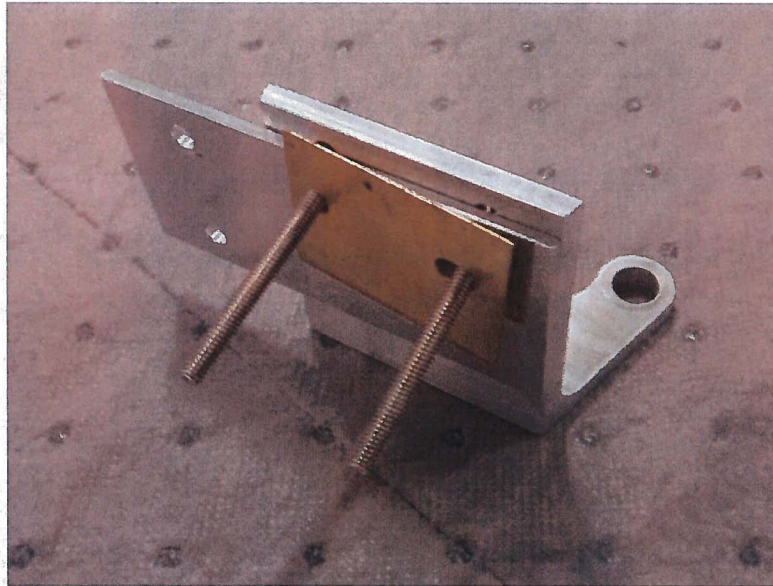

Figure 2
- c) Temporarily position MOV mounting plate (P/N 105070) and brush block shim (P/N 1H1157) on brush block bracket with two B-6637-53 Pan Head screws as shown in **Figure 2**. Install a B-3837-N832 CRES flat washer under the head of each bolt.